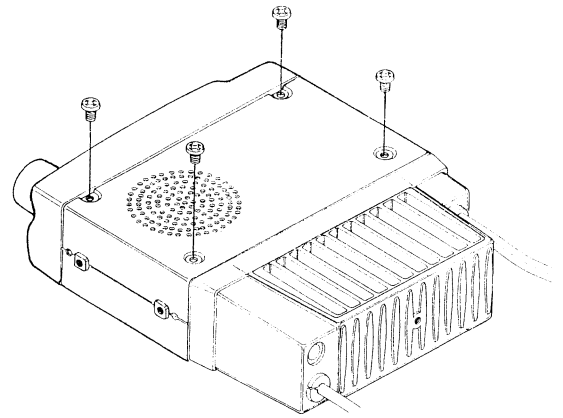

Figure 2.
- Remove the four screws from the bottom cover, to expose the component (PCB unit's) side of the Main Unit (Figure 2).